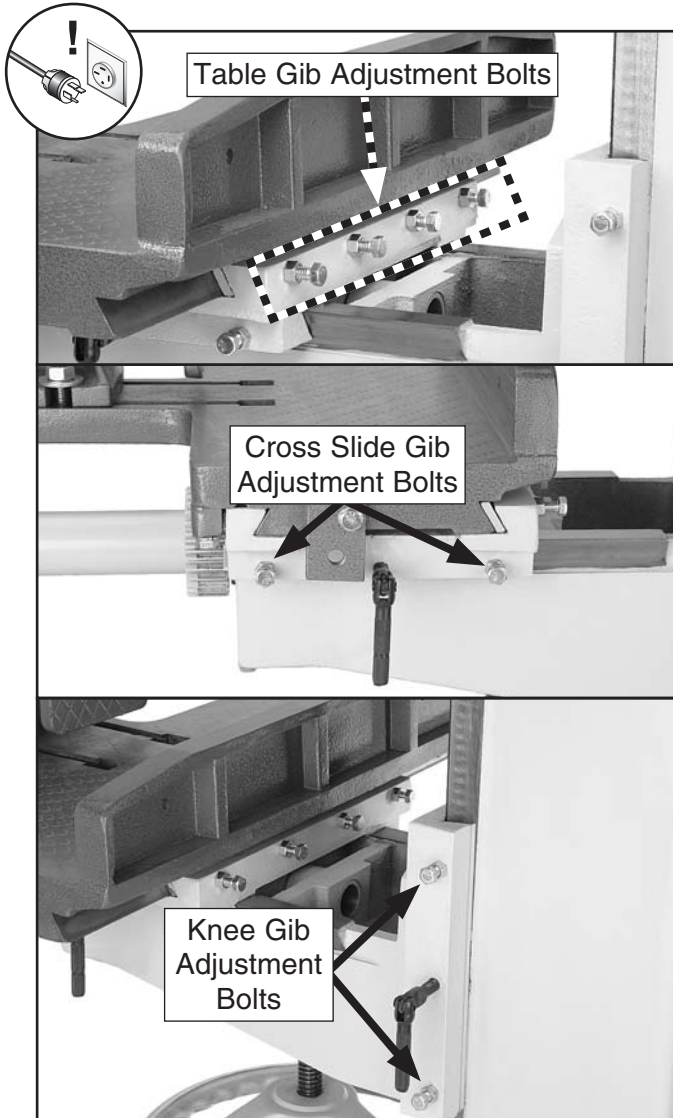

Figure 45 . Table, cross slide, and knee gib adjustment bolts.
2. Use to **Figure 45** to identify the location of the table, cross slide, and knee gib adjustment bolts and jam nuts.